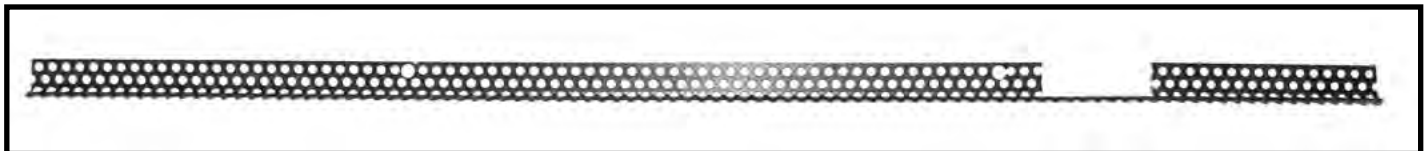

Figure 69: Front mesh guard.
3. Place the front mesh guard (Figure 69) along the leading edge of the front burner as shown in (Figure 70) and secure with supplied screws.